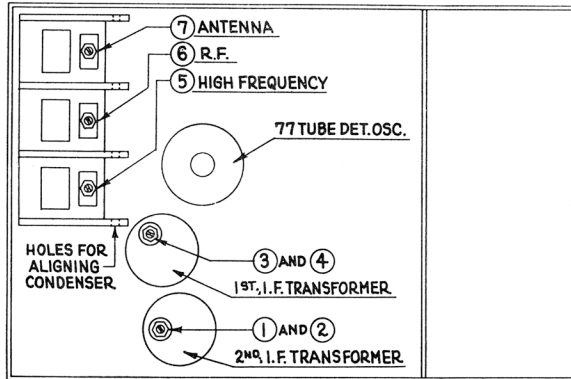

Fig. 31
Remove the speaker lid from the Receiver. Remove the grid cap terminal from the 77 tube (for location see Fig. 31).
The 2d I.F. padders ① and ② are adjusted first (Fig. 31). Turn the adjusting screw ① all the way in. Then, with generator attenuator set so there is approximately half-scale reading, adjust the nut ② with a fibre wrench for the maximum reading on the output meter.
There are four holes in line, one in each of the sections of the tuning condenser housing. (See Fig. 31). Place a nail of the size that fits snugly through the holes and then turn the condenser plates out of mesh until they strike against the nail.